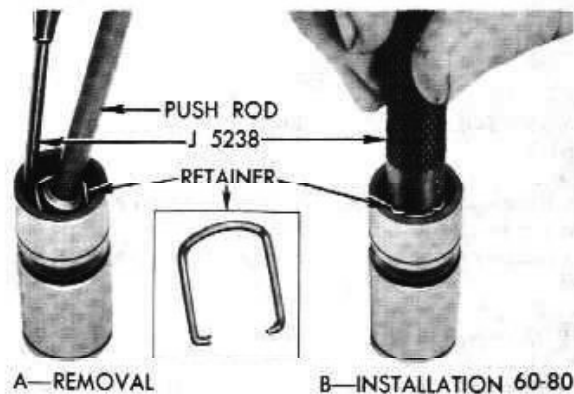

Figure 60-84 - Removing and Installing Plunger Retainer
- Disassemble each valve lifter by using a push rod to hold down the push rod seat while removing the plunger retainer from the lifter body using Retainer Remover J-5238. See Figure 60-84. Remove push rod seat, oil metering valve, and plunger from lifter body.
17. Rinse push rod seat, metering valve, and plunger retainer. Place these parts in end of body and push with handle of Remover J-5238 until retainer engages groove in body. See Figure 60-84, View B.
NOTE: The newer Model J-5790 leakdown tester will have a different scale than the one shown in Figure 60-84. In this case, time the pointer travel from "Start" to the .125 mark on the scale. The leakdown rate must still be between 12 and 60 seconds.